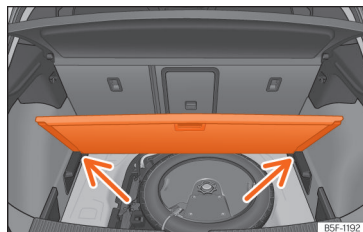

Fig. 189 Variable boot floor: tilted position.
- Rest the floor on its housings »» **Fig. 189** (arrows).